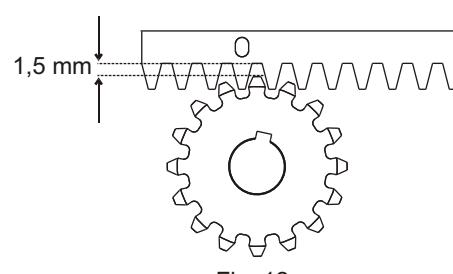

Fig. 12
**6.6.** Set the rack 1.5 mm higher to avoid the gate weight loading on the pinion (Fig. 12),